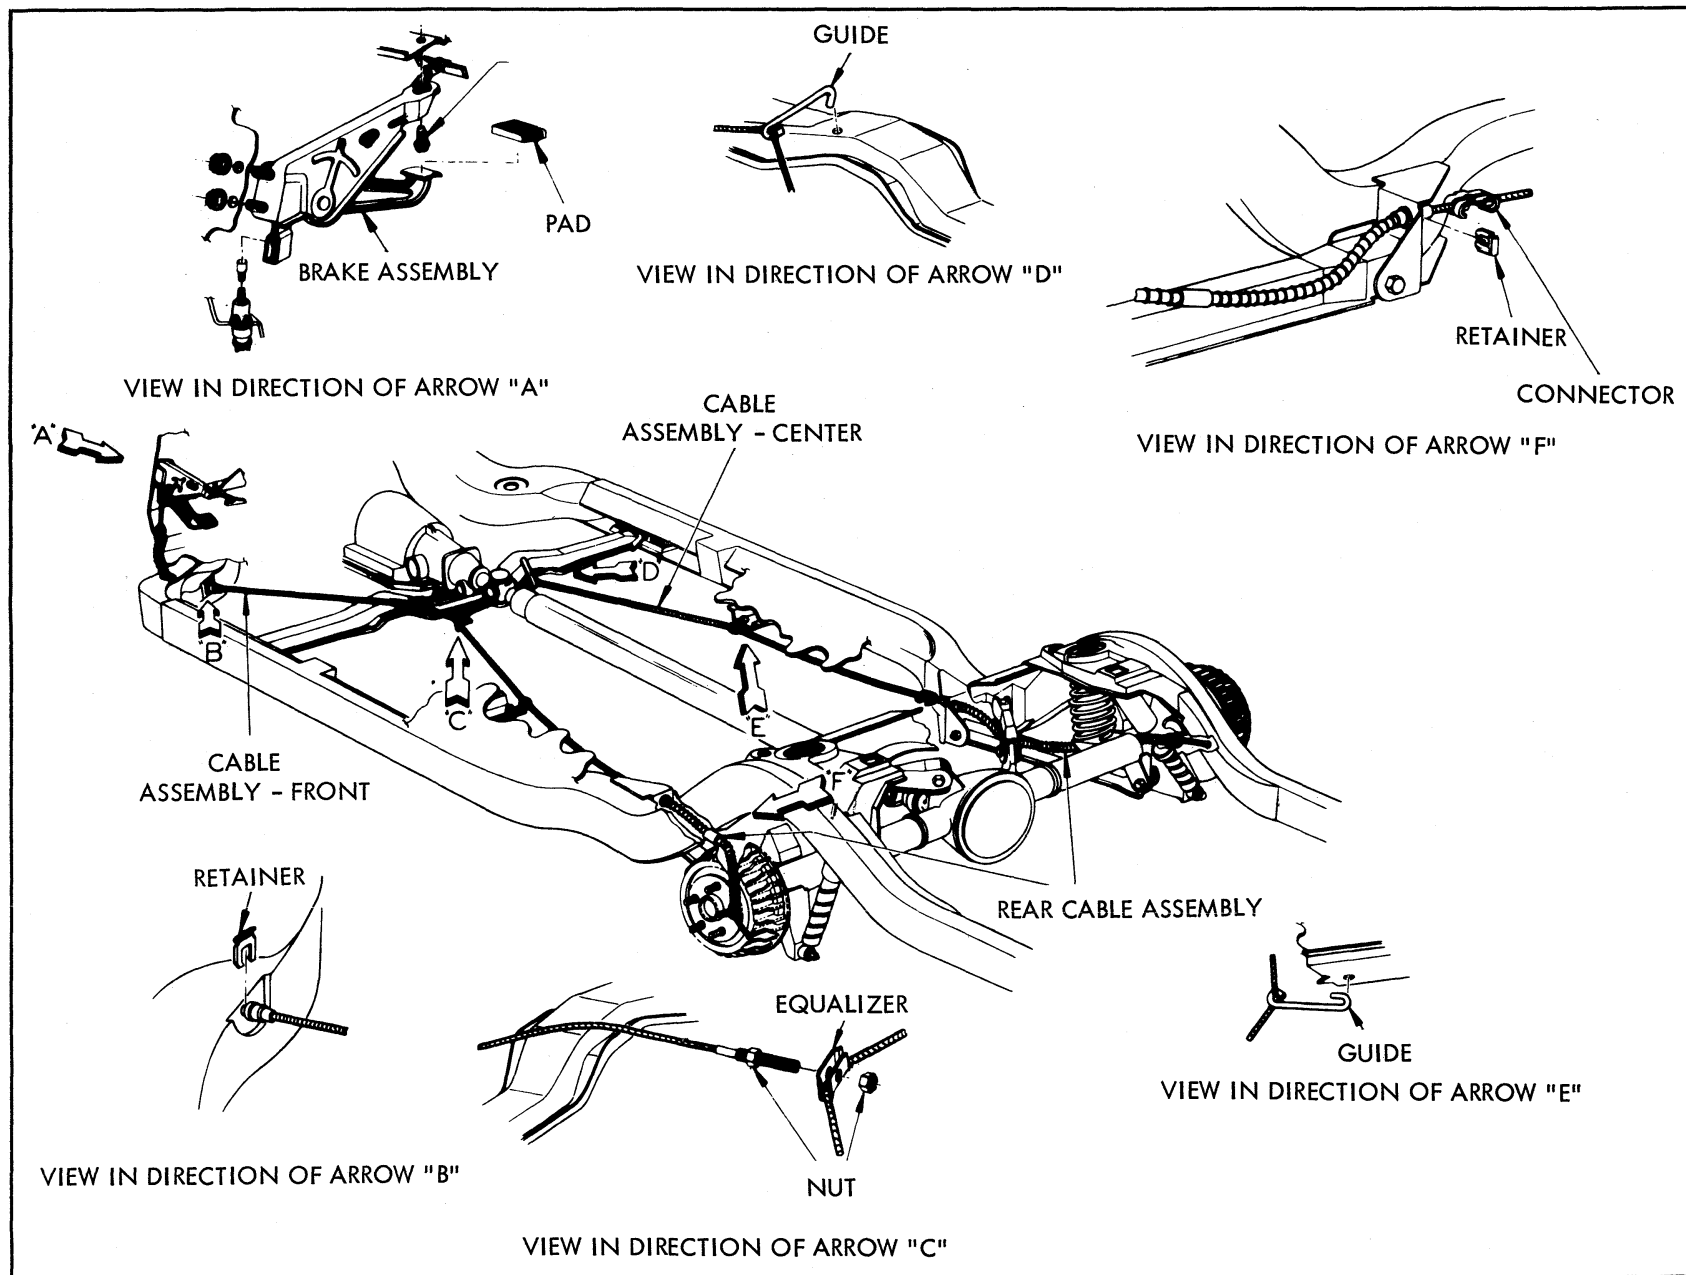

Fig. 5-2 Schematic Diagram of Parking Brake System
The parking brake lever (Fig. 5-2) operates the rear brakes through a system of cables. This brake is foot operated and the actuating lever is mounted under the left side of the instrument panel.
3. If equalization requires more than a few notches movement, retighten adjusting screw to point for proper adjustment of that brake and equalize rear cable by loosening the cable clamp screws at the equalizer clevis, and pulling downward on the tight side of the cable. It may be necessary to open the clamp with a screwdriver to allow the cable to equalize (Fig. 5-2).
5. Close adjustment for tension may be secured by adjusting the clevis at the rear end of the front cable. In adjusting here, be certain to turn clevis on or off cable end and do not twist the cable (Fig. 5-2).